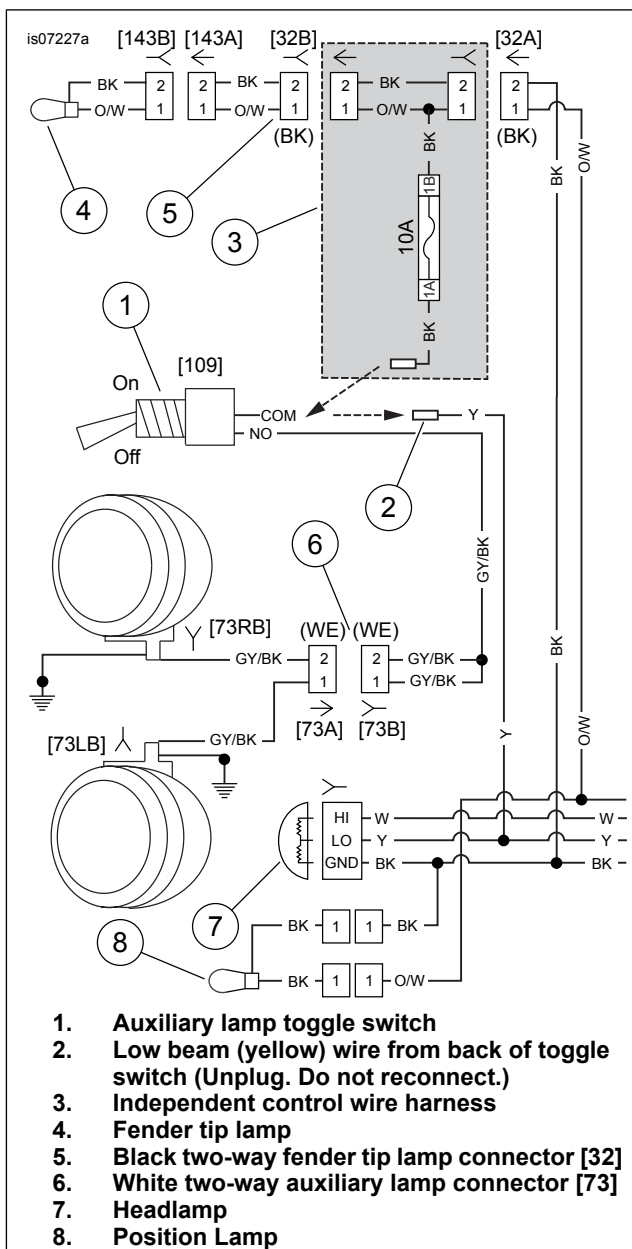

Figure 2. Wiring Diagram, FLSTC Installation
- Remove the hex nut and washer from the auxiliary lamp toggle switch (1) on the rear of the left fork leg cover panel. Bring the toggle switch out from behind the panel.
- See Figure 2. Unplug the insulated female terminal on the end of the low beam (yellow) wire (2) from the COMMON spade terminal on the back of the toggle switch. Protect the yellow wire terminal with the shrink tube (Part No. 72249-94) from the kit. This wire will not be reconnected.
- Plug the auxiliary lamp independent control wire harness (3) black wire and insulated female terminal into the toggle switch COMMON terminal.
- Locate the black two-way fender tip lamp (4) connector [32] (item 5, with black and orange/white wires) under the fuel tank, on the left side. Unplug the connector halves per the service manual appendix.
- Plug the auxiliary lamp independent control wire harness (3) connectors into the mating fender tip lamp connector halves [32A] and [32B]. Tuck the connectors behind the fuel tank rubber trim.